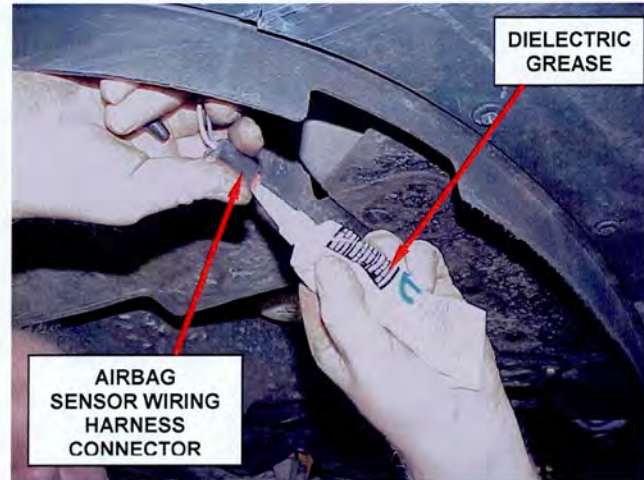

Figure 7 – Dielectric Grease Installation
5. Apply a small amount of dielectric grease (PN J8126688) to the right and left supplemental front airbag sensor harness connector (Figure 7).